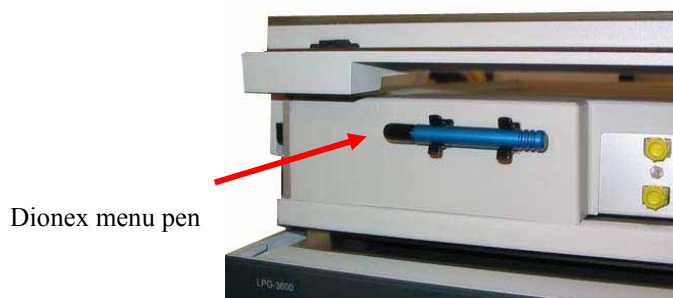

Fig. 24: Menu pen in the solvent rack
**i** **Please note:** The menu pen is included in the pump's accessories kit. In an UltiMate 3000 system, another menu pen is installed in the solvent rack (→ Fig. 24).